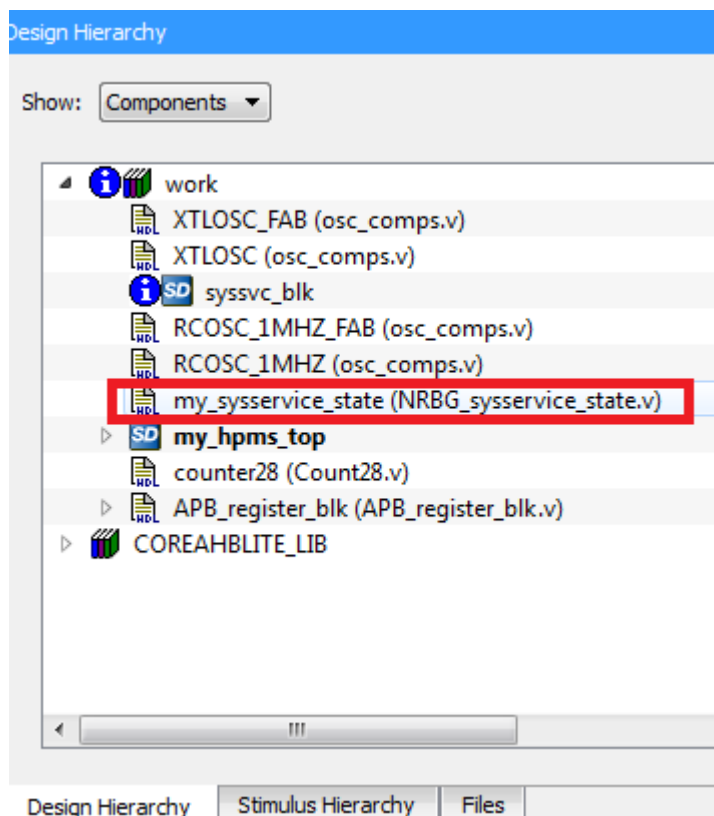

Figure 21 Adding NRBG State Machine Code in the SmartDesign Canvas
28. Drag **my_sysservice_state** instance from the Design Hierarchy tab to the SmartDesign canvas. SmartDesign adds **my_sysservice_state** and use **my_sysservice_state_0** as the instance name, as shown in Figure 21.